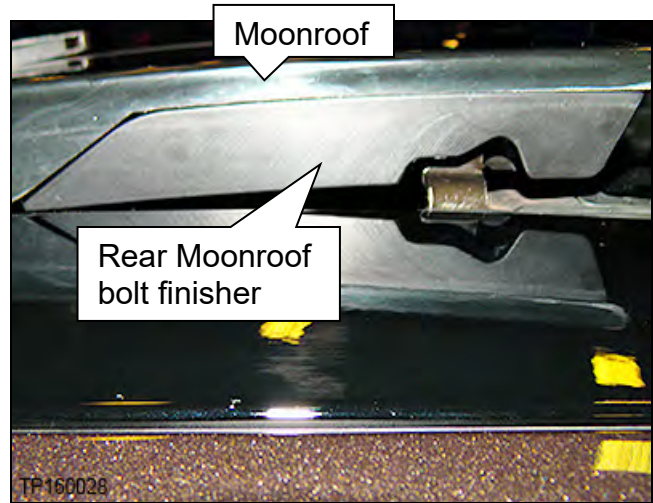

Figure 51
7. Remove left rear and/or right rear Moonroof bolt finishers (Figure 51).